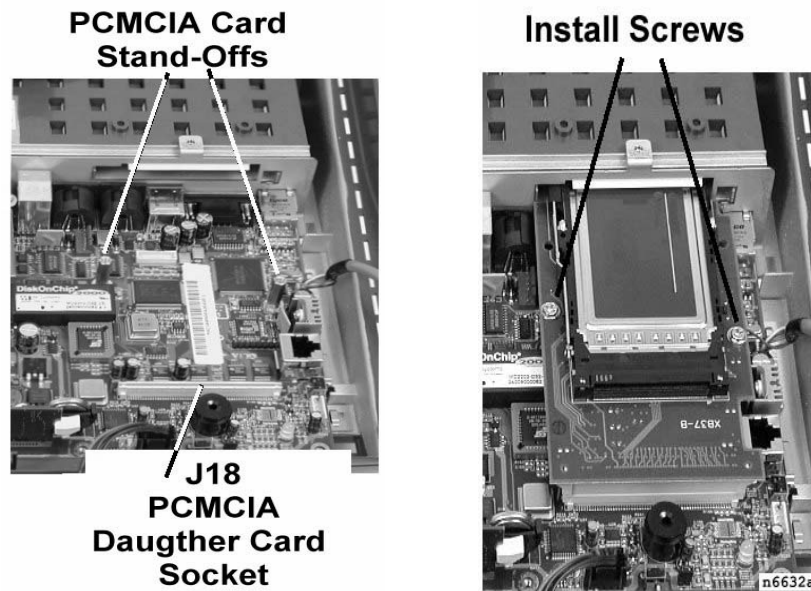

Figure 2-14: PCMCIA Daughter Card Installation
4. Refer to Figure 2-14 and note the location of each stand-off and the daughter card socket.
7. Install screws in each stand-off as shown on the right side of Figure 2-14.